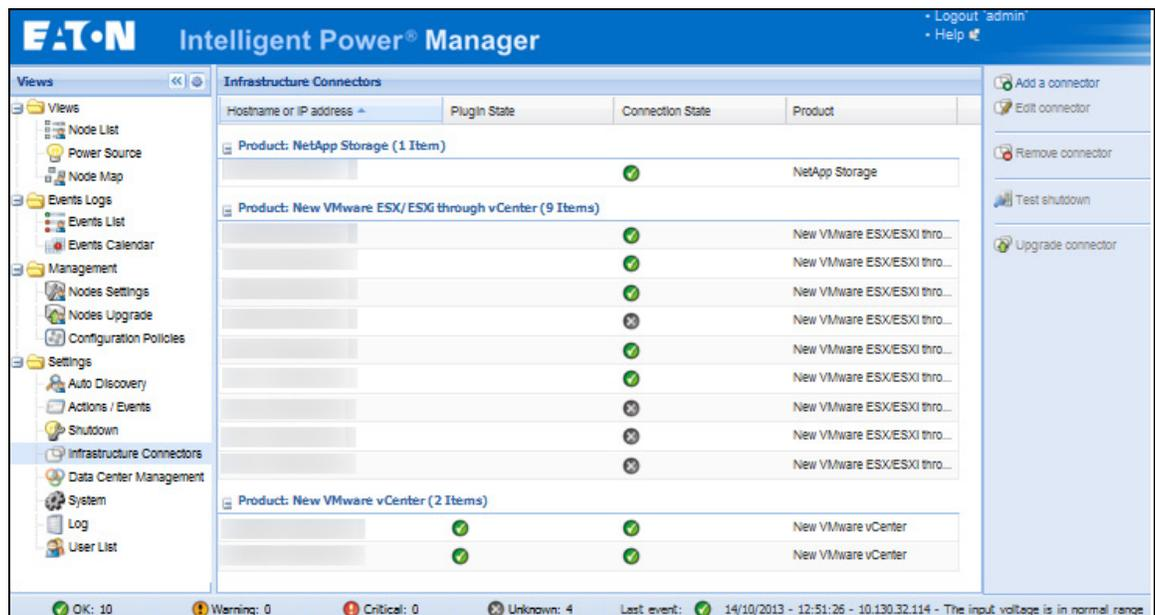

Figure 72. System Settings Page
2. Click **Edit modules settings** in the right panel. The Edit modules settings dialog box displays (see Figure 72).